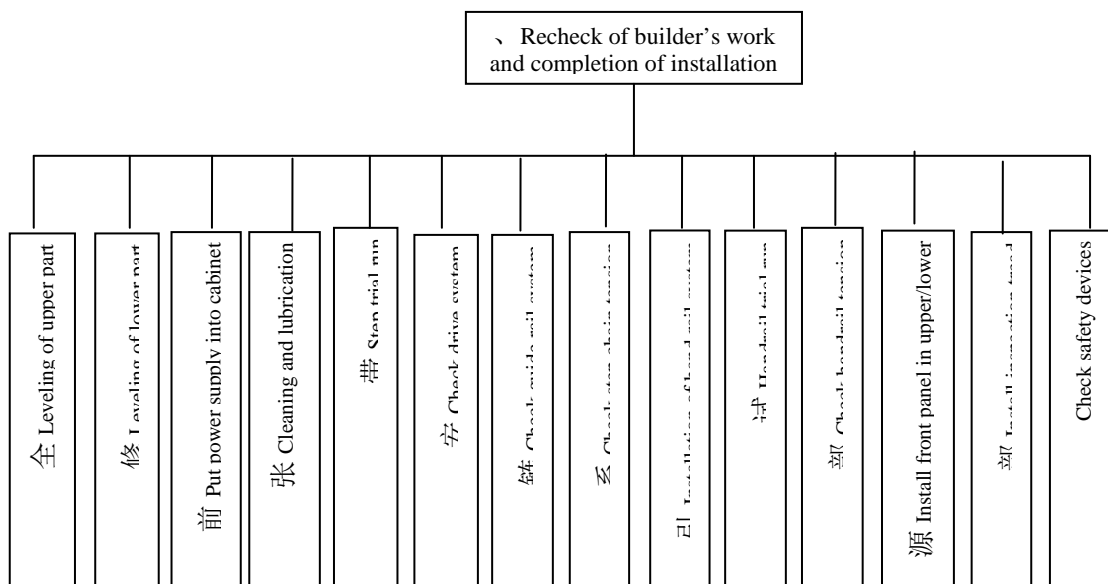

Figure 1 Sequence of escalator installation
1.3 Figure 1 shows the basic procedure for escalator installation.